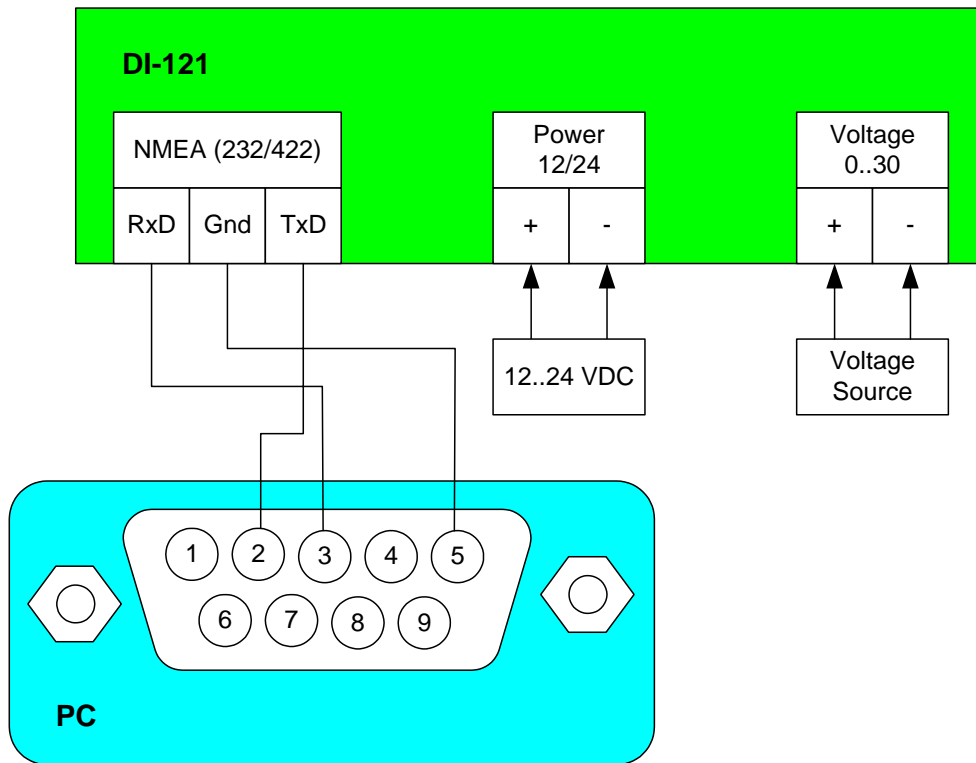

Fig. 2. Connection scheme of DI-121 for programming.
1. connect connector NMEA of DI-121 with COM-port of PC, power supply and signal source (in the form of direct voltage level), see Fig.2.